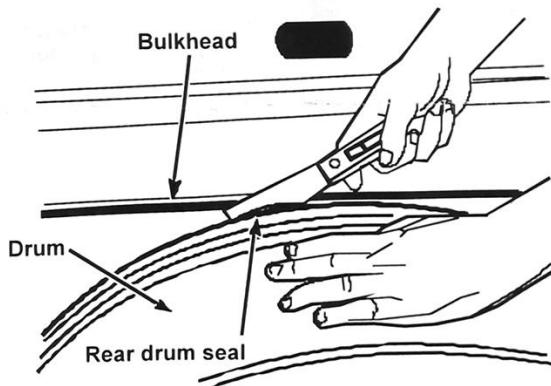

Figure 2
9. Turn the drum by hand one full turn, (counterclockwise) making sure the rear seal is riding on top of the ridge on the bulkhead and not turned under. See Figure 2.